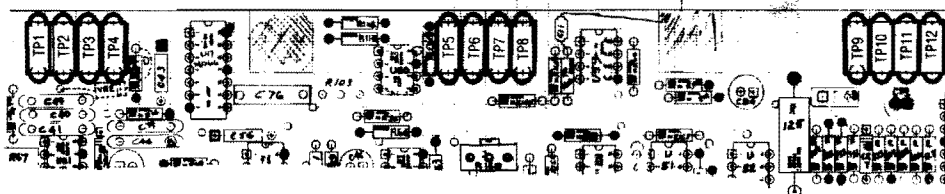

Figure 5-18. Scope/DVM Control Test Point Numbering
5. Remove the ground from the DVM Input and connect the DVM Input to TP 12 of the Scope/DVM Control Board. (Figure 5-18)